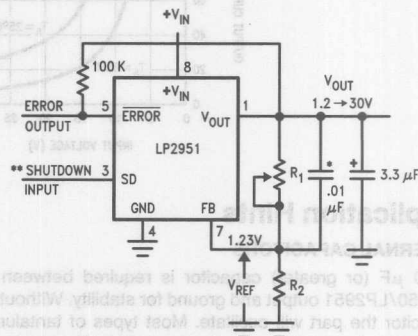

FIGURE 2. Adjustable Regulator
The LP2951 may be pin-strapped for 5V using its internal voltage divider by tying Pin 1 (output) to Pin 2 (sense) and Pin 7 (feedback) to Pin 6 (5V Tap). Alternatively, it may be programmed for any output voltage between its 1.235V reference and its 30V maximum rating. As seen in Figure 2, an external pair of resistors is required.
*When $V_{IN} \leq 1.3$ V, the error flag pin becomes a high impedance, and the error flag voltage rises to its pull-up voltage. Using V_{OUT} as the pull-up voltage (see Figure 2), rather than an external 5V source, will keep the error flag voltage under 1.2V (typ.) in this condition. The user may wish to divide down the error flag voltage using equal-value resistors (10 k Ω suggested), to ensure a low-level logic signal during any fault condition, while still allowing a valid high logic level during normal operation.